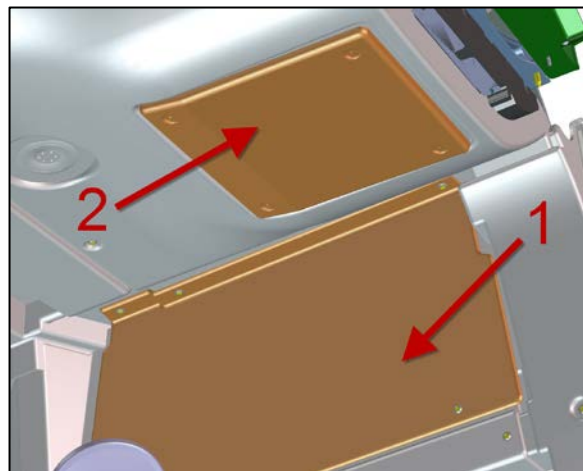

Figure 38
62. Install closing cap (item 1, Figure 38)
63. Install front RH roof access panel (item 2, Figure 38).